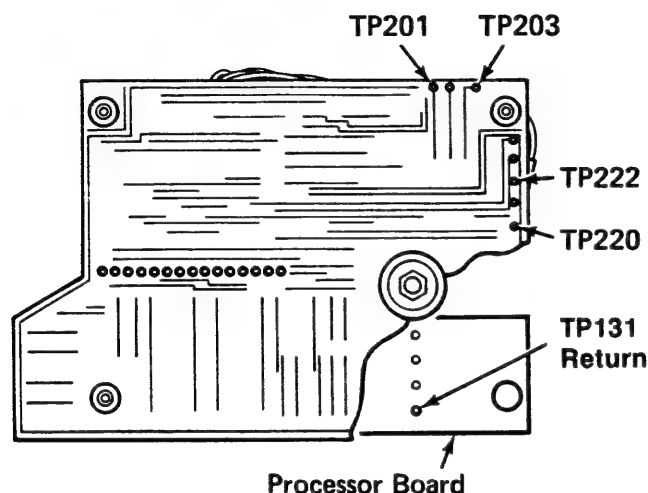

Figure 3-10.6D
6. Connect the Channel 1 Scope Probe to TP201 on the Peripheral PWA and the Channel 1 Ground to TP131 on the Processor PWA (Figure 3-10.6D).
7. Connect the Channel 2 Scope Probe to TP220 on the Peripheral PWA (Figure 3-10.6D). Do not connect the Channel 2 Ground.
1. Connect the Channel 1 Scope Probe to TP203 on the Peripheral PWA and Ground to TP131 on the Processor PWA (Figure 3-10.6D).
2. Connect the Channel 2 Scope Probe to TP222 on the Peripheral PWA (Figure 3-10.6D).